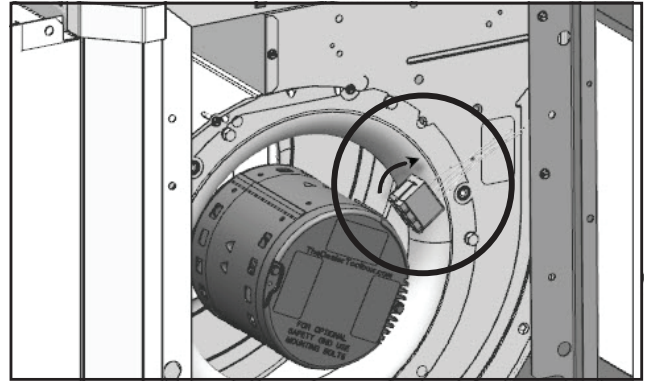

Fig. 42 - Blower Motor Wring & Ground Wire Location
2. Disconnect blower motor wiring and ground wire fastened to blower housing. See Fig. 42.